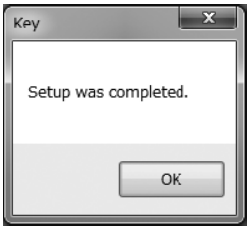

Fig.97
- ④ Click "OK" to change the settings to the inputted values, and then click the "OK" button in the displayed message box (Fig. 97) to complete the setting process.